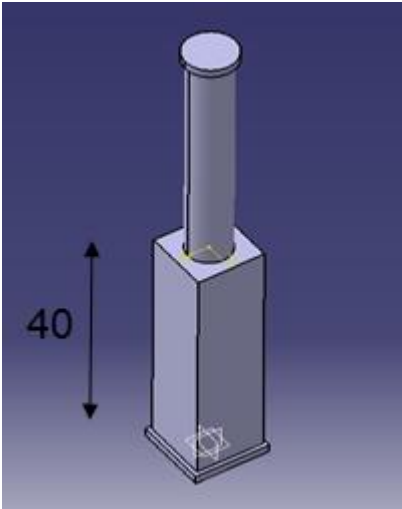

Figure 3.6:Table Cylinder
2. Pneumatic Cylinder: uses to rise & fall the base (**Figure 3.6**)